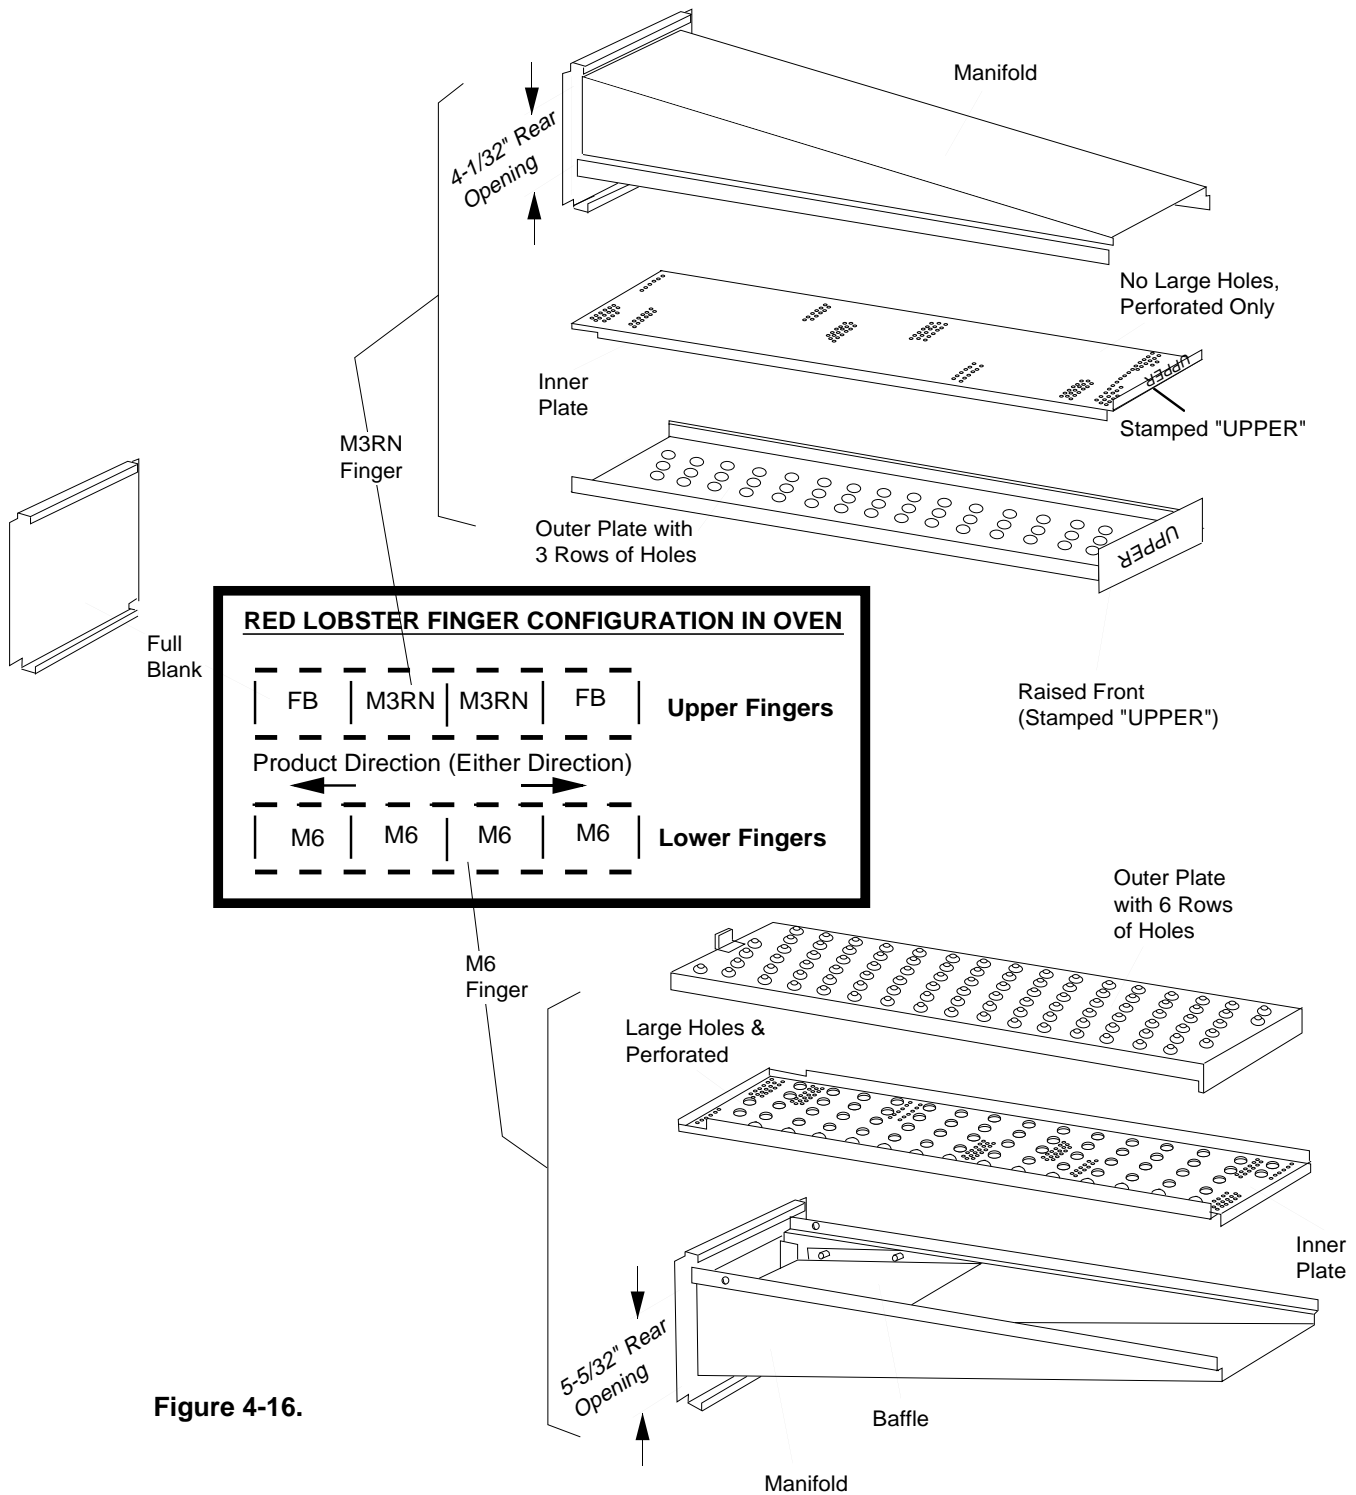

Figure 4-16.
- Finger assemblies are made up of an outer plate, inner plate and finger manifold as shown in Figure 4-16.
Refer to Figure 4-16 for correct finger position in oven.
4. Reassemble top fingers and blank plates into oven. Refer to Figure 4-16, 4-22 & 4-23.